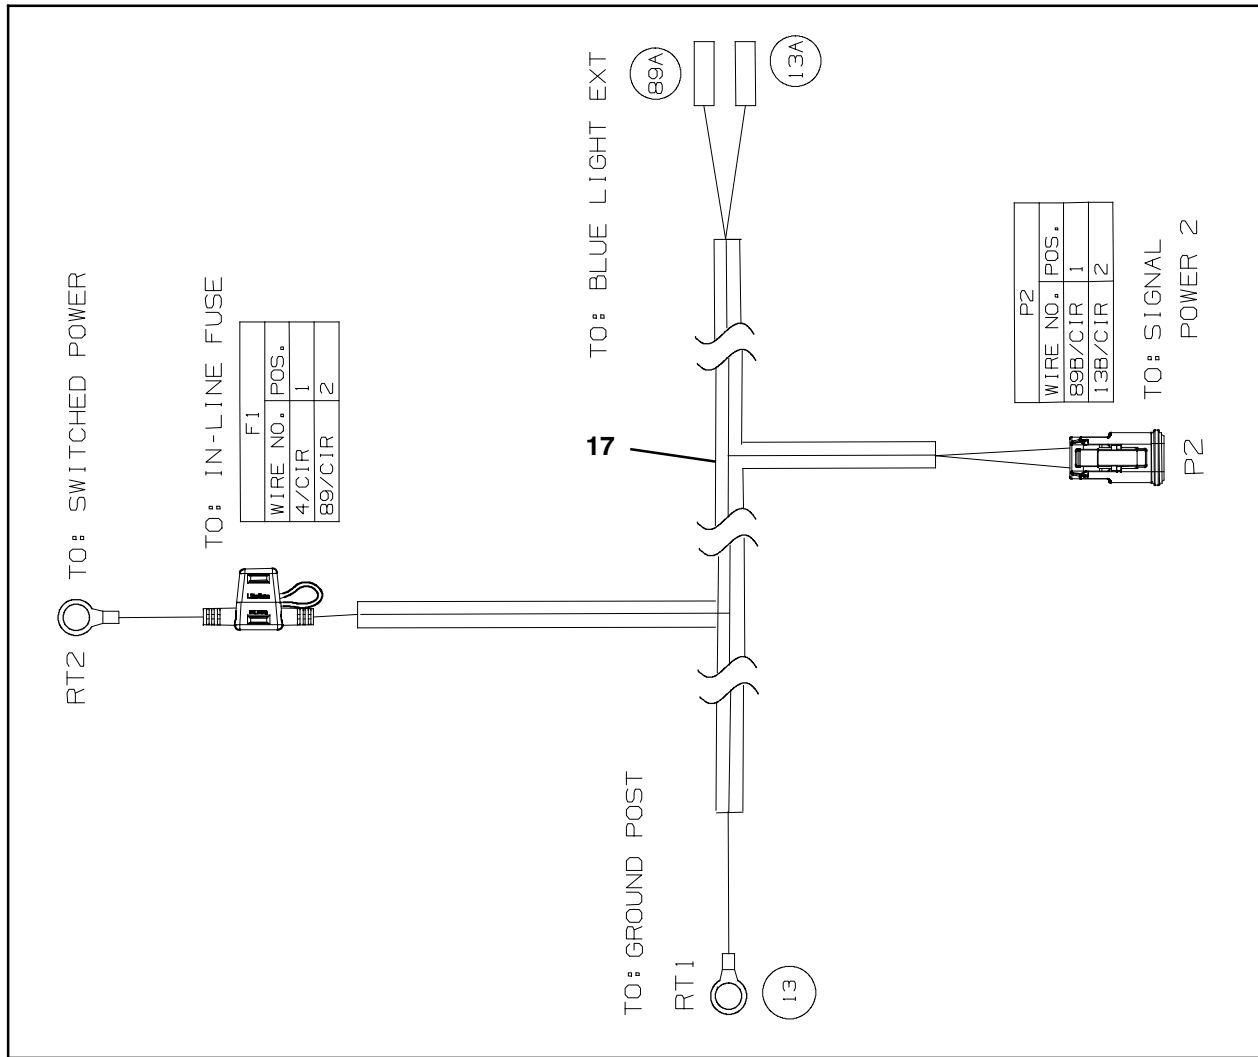
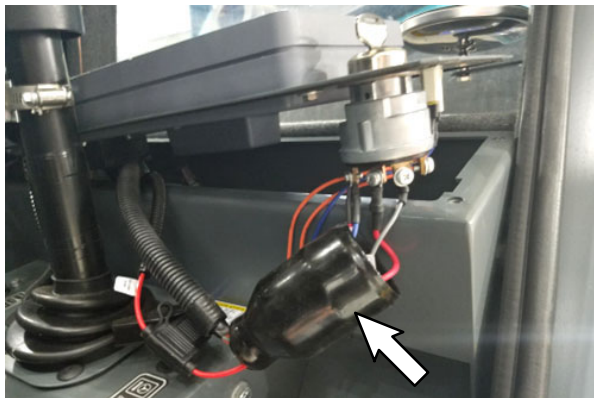
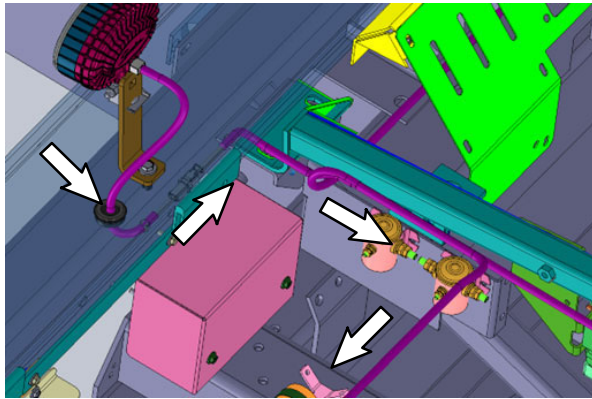
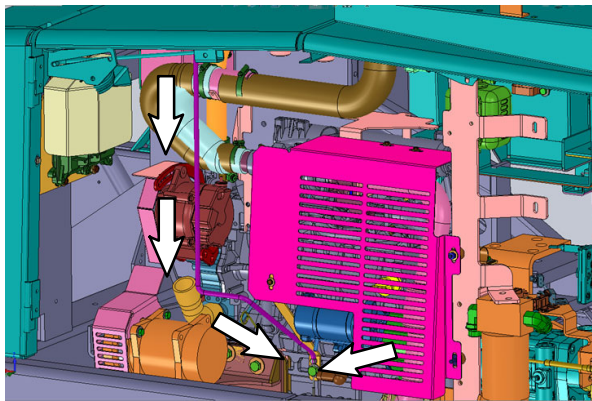

FIG. 5
FIG. 6
FIG. 7
FIG. 8
18. Connect the blue spotlight harness (6) to the blue spotlight harness (17) P2. (Fig. 2/Fig. 5)
19. Slide the rubber ignition switch boot far enough from the ignition switch to access the terminals on the bottom of the ignition switch. (Fig. 6)
21. Connect the blue spotlight harness (17) RT2 lead to the ignition switch AC terminal. (Fig. 5/Fig. 6)
22. Slide the rubber ignition switch boot back onto the ignition switch. (Fig. 6)
- 24.Route the blue spotlight harness (17) RT1 lead along the fire wall and down to the engine ground. (Fig. 7/Fig. 8/Fig. 5)
- 25.Connect the blue spotlight harness (17) RT1 lead to the engine ground. (Fig. 8/Fig. 5)
- 26.Route the remainder of the blue spotlight harness (17) leads through the engine compartment, over the battery compartment, and to the rear of the machine near where the flashing light/strobe light is/would be installed on the engine cover panel.